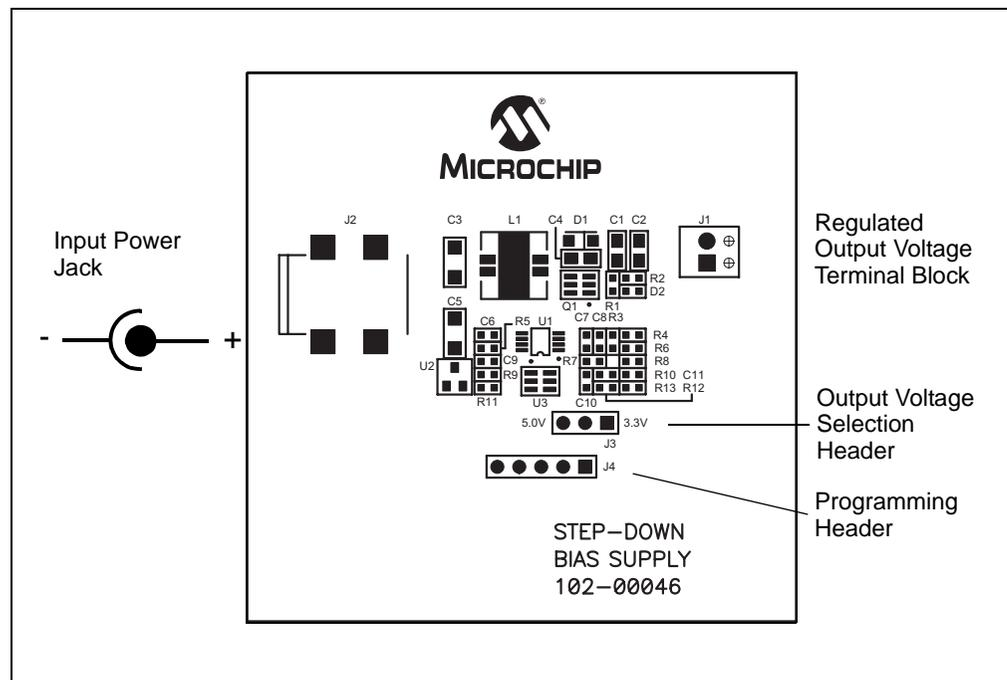

FIGURE 2-1: Set-Up Configuration Diagram.
2. The inside portion of the input power plug must be positive. The outer jacket of the input power plug must be negative. Refer to Figure 2-1.